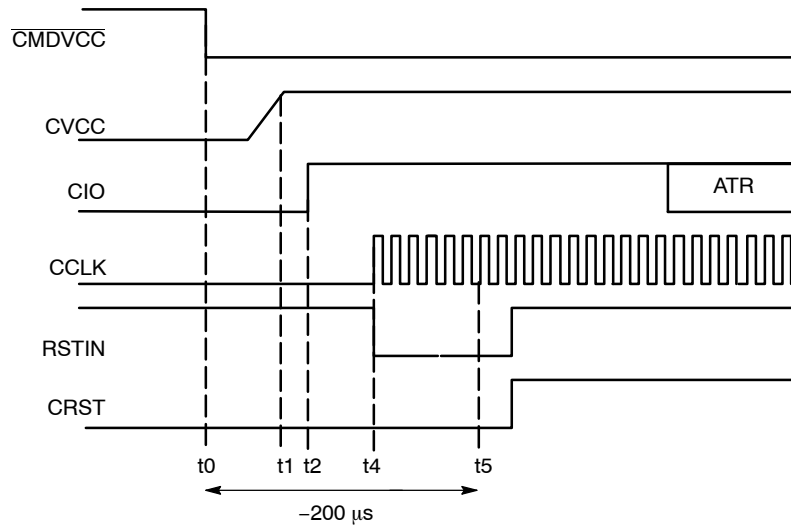

Figure 4. Activation Sequence – RSTIN mode (RSTIN Starting High)
The clock can also be applied to the card using a RSTIN mode allowing controlling the clock starting by setting RSTIN Low (Figure 4). Before running the activation sequence, that is before setting Low \overline{CMDVCC} RSTIN is set High. The following sequence is applied:
- Between t₂ (Figure 4) and t₅ = 200 μs, RSTIN is reset to LOW and CCLK will start precisely at this moment allowing a precise count of clock cycles before toggling CRST Low to High for ATR (Answer To Reset) request.